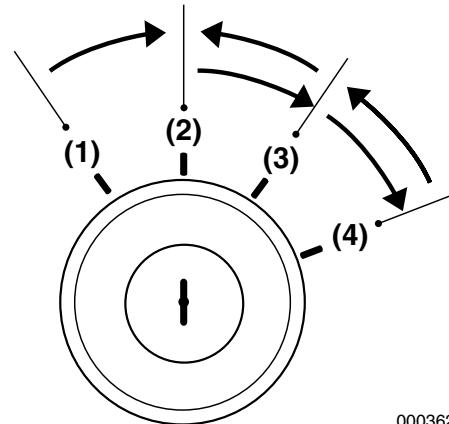

Figure 20
4. Turn battery switch to ON (**Figure 20, (3)**) (if equipped).
*Note: If the engine has not been operated for a long period of time, check that the key can be moved from START (**Figure 20, (4)**) to ON positions smoothly.*
- a. While pushing the STOP button on the control panel, turn the key to the START position (**Figure 20, (4)**).